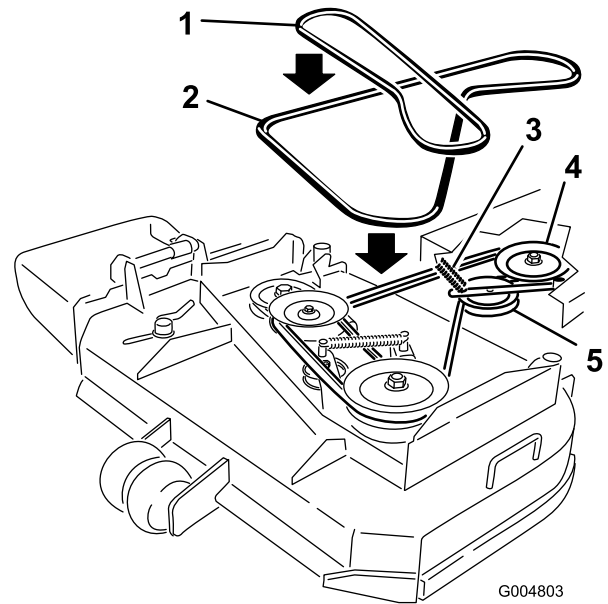

Figure 38
6. Roll the belt off of the center pulley on the mower deck (Figure 38). Use caution when removing the belt as tension will increase because of the spring loaded idler pulley.
7. Remove the belt from the engine pulley and the spring loaded idler pulley (Figure 38).
8. Install the new belt onto the engine pulley and spring loaded idler pulley (Figure 38).
9. Roll the belt onto the center pulley on the mower deck (Figure 38). Use caution when install the belt as tension will increase because of the spring loaded idler pulley.